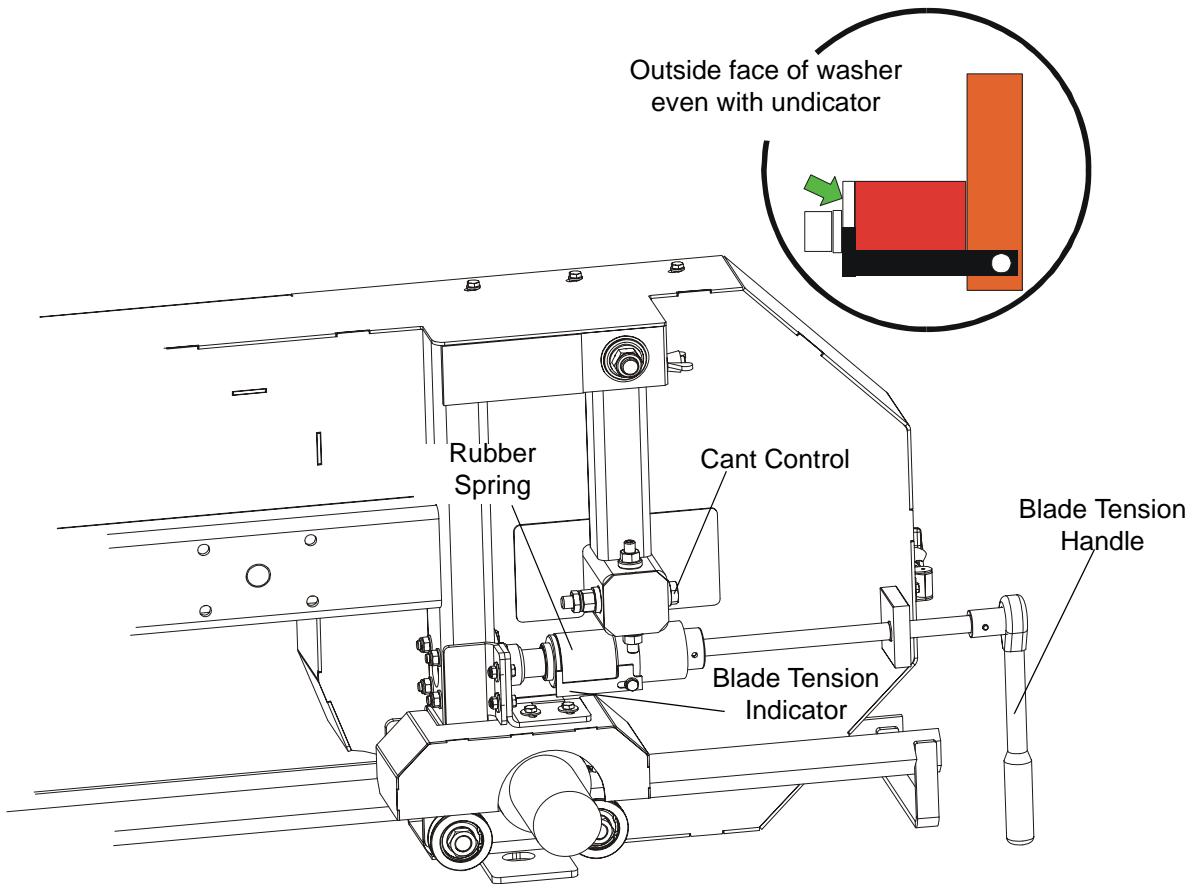

FIG. 2-18
5. Use the cant adjustment bolt, shown in **Figure 2-18** to adjust where the blade travels on the blade wheels.